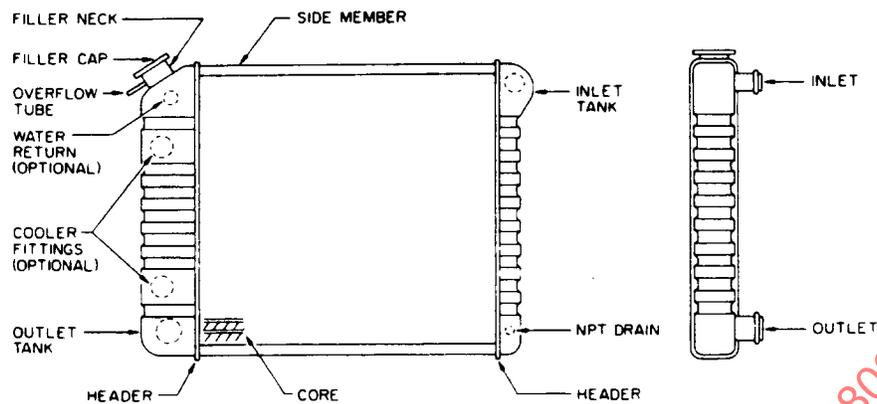

FIGURE 6—AUTOMOBILE RADIATOR (CROSS FLOW)
- 3.14 **Crossflow Radiator**—A radiator whose core tubes run horizontally when installed in the cooling system. See Figure 6.
- 3.30 In-Tank Oil Cooler**—An oil-to-coolant oil cooler mounted in a radiator tank, usually the outlet tank. See Figure 6.
- 3.40 Plastic Tank Radiator (PTR)**—A radiator whose inlet and outlet tanks are made of plastic, usually glass fiber reinforced Nylon 6-6. Figures 6 and 7 can represent radiators having plastic inlet and/or outlet tanks. Inlet and outlet are integral with the appropriate tank. The filler neck and other parts and/or fittings may also be integrated with the tanks. Tanks are gasketed and secured to the headers, usually by tabs on the header, or by crimping strips, which are crimped onto or over the tank flange.
- 3.54 Sheet Metal Radiator**—A radiator whose inlet and outlet tanks are made of sheet metal, usually drawn brass, usually soldered to the headers. Sometimes referred to as soldered radiators. Figures 6, 7, 8, and 9 illustrate the nomenclature for sheet metal radiators.